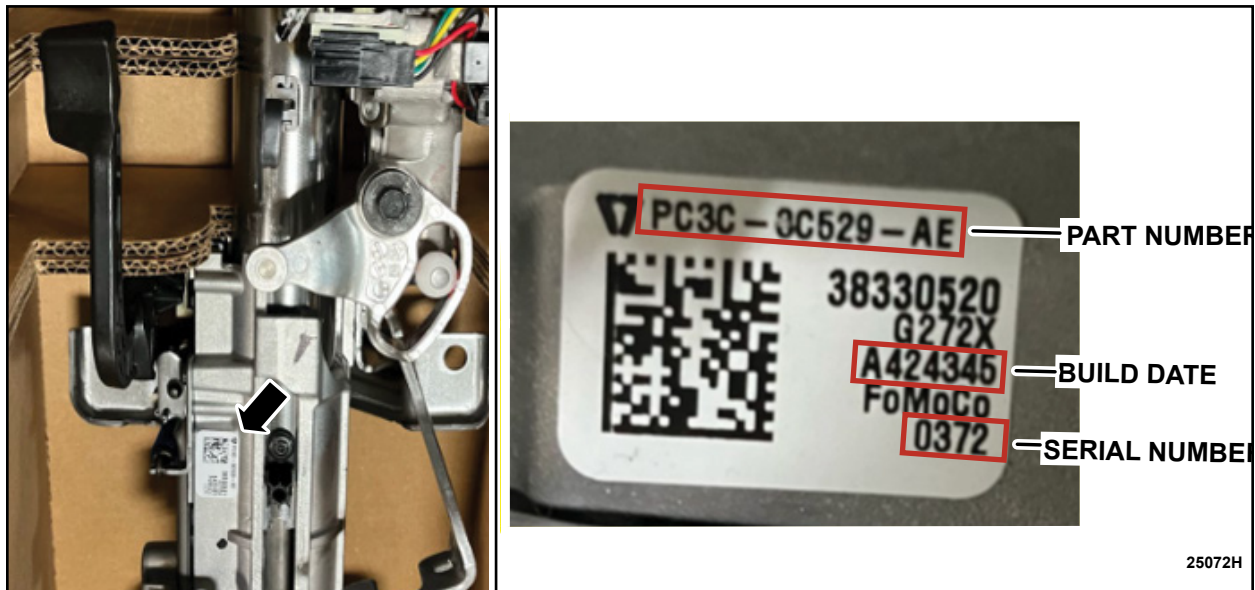

FIGURE 1
- 2. Inspect for a barcode label, located on the bottom of the steering column, near the rear driver side column retainer, in front of the knee bolster. Take a clear photo of the barcode label. See Figure 1.*